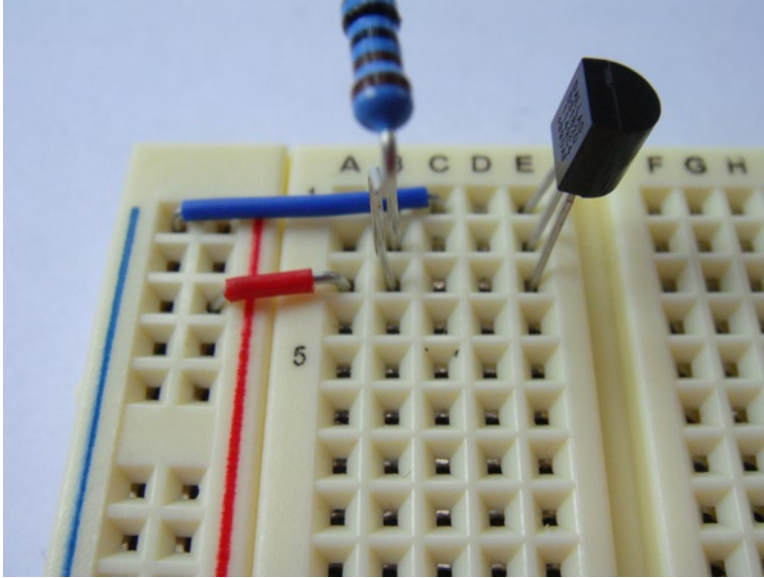

Figure 3-10. Good resistor placement
4. Now you need to install a resistor. This resistor is the pull-up resistor. You must insert it between pin 2 and pin 3. Place this close to the edge of the board. Have a look at Figure 3-10 for an example of a good placement. Why is that a good place? This is the pull-up resistor and it needs to follow the connection from the Raspberry Pi's GPIO pin. If you were to place the resistor before the connection your sensor won't work.